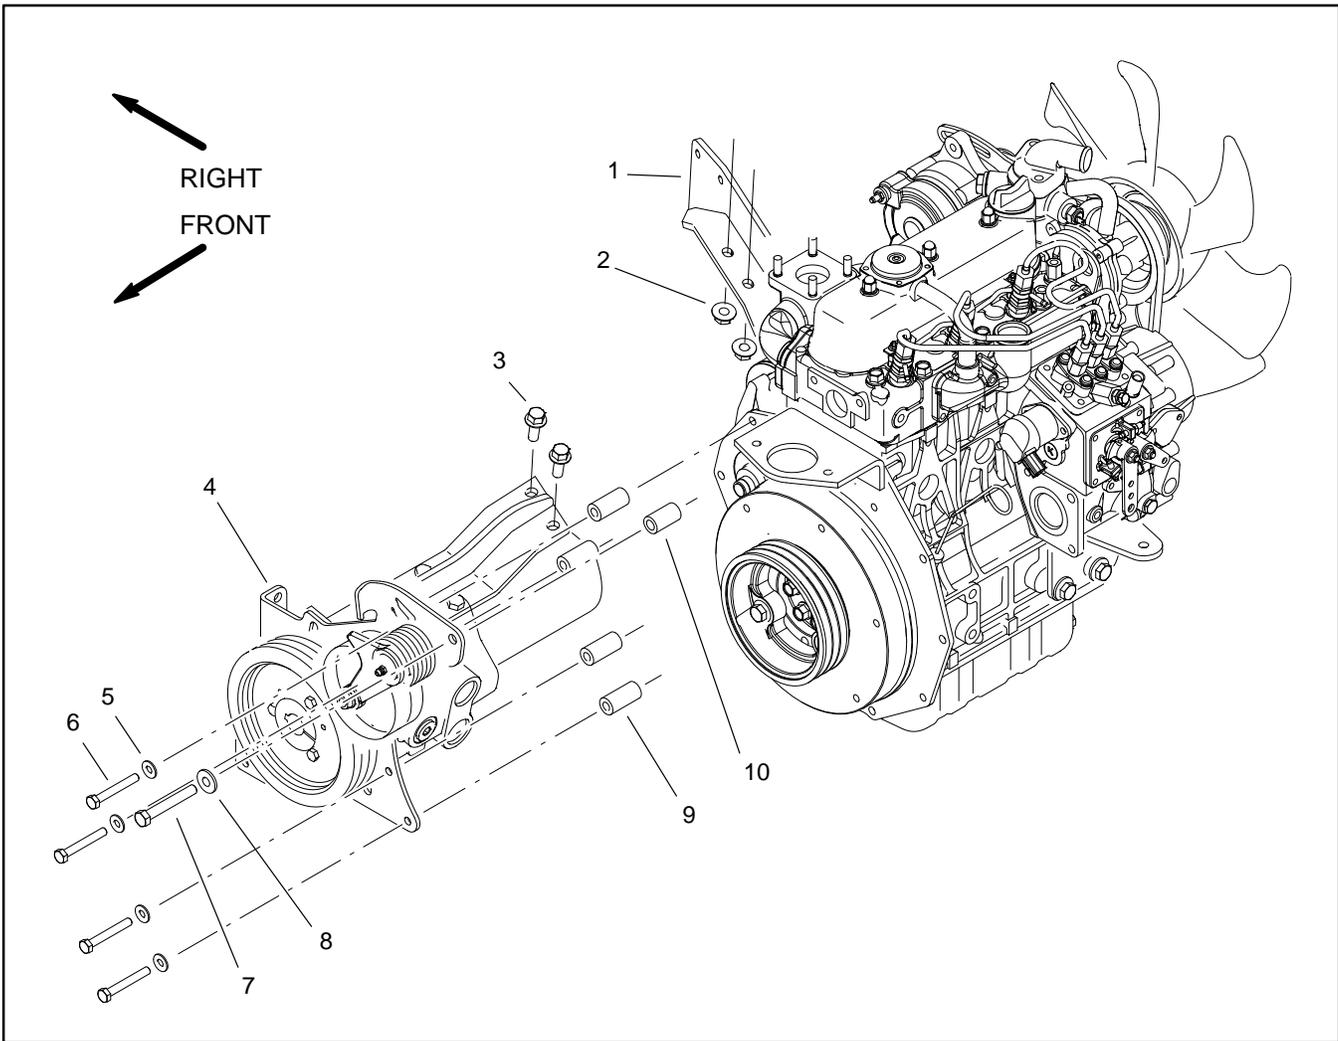

Figure 15
15. Separate hydrostat and pump assembly from the engine as follows (Fig. 15):
2. Install hydrostat and pump assembly to the engine as follows (Fig. 15):